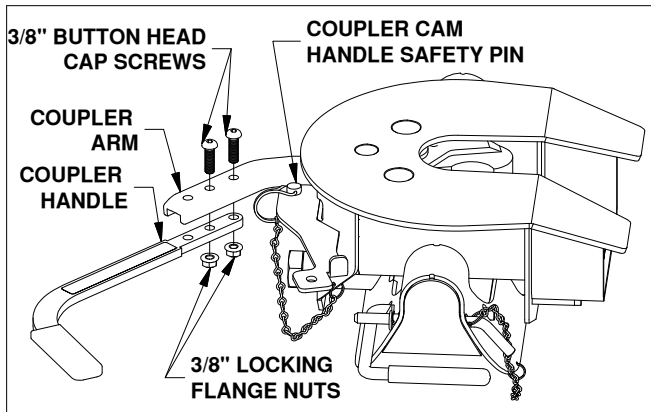

FIGURE D1: View looking down at side of coupler head.
1. Locate the two 3/8" x 1-1/4" button head cap screws and the two 3/8" flanged lock nuts provided in a bolt bag. Pull out the coupler arm and pin it with the safety locking pin near the base of the arm as shown in Figure D1.
2. Using the button cap screws and the lock nuts attach the coupler handle to the arm and tighten, see Figure D1. Pull out the coupler cam handle safety pin.